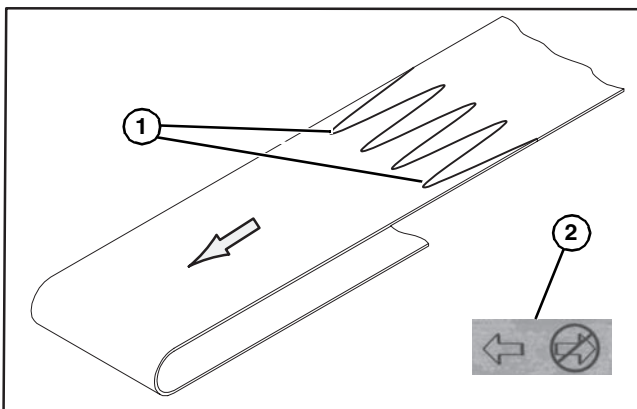

Figure 23
- Orient belt so splice leading fingers (**Figure 23, item 1**) point in the direction of belt travel as identified by the conveyor directional label (**Figure 23, item 2**).